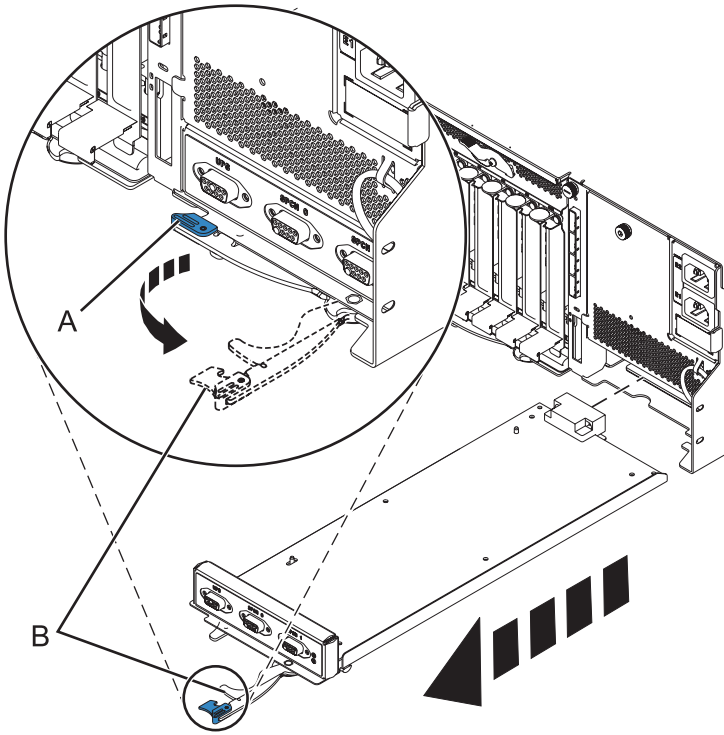

Figure 97. Remove the enclosure management controller
- b. Pinch the latch (A) to unlock the handle (B). See Figure 97 on page 126.